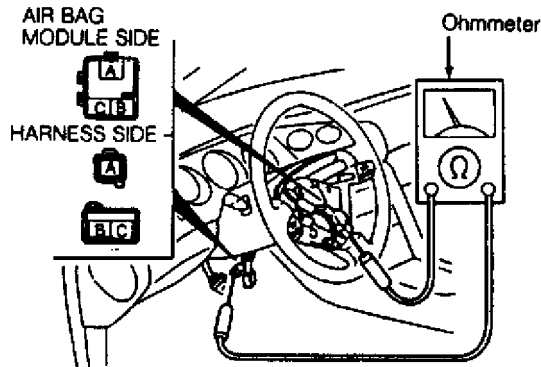

Fig. 12: Checking Clockspring Harness Continuity
6) Disconnect rear safing sensor connector. Check continuity between rear safing sensor connector terminals "A" and "B". See Fig. 12. If continuity is not present, replace rear safing sensor. If continuity is present, go to next step.
7) Check continuity between rear safing sensor connector terminals "C" and "D". See Fig. 12. If continuity is not present, replace rear safing sensor. If continuity is present, replace wiring harness.